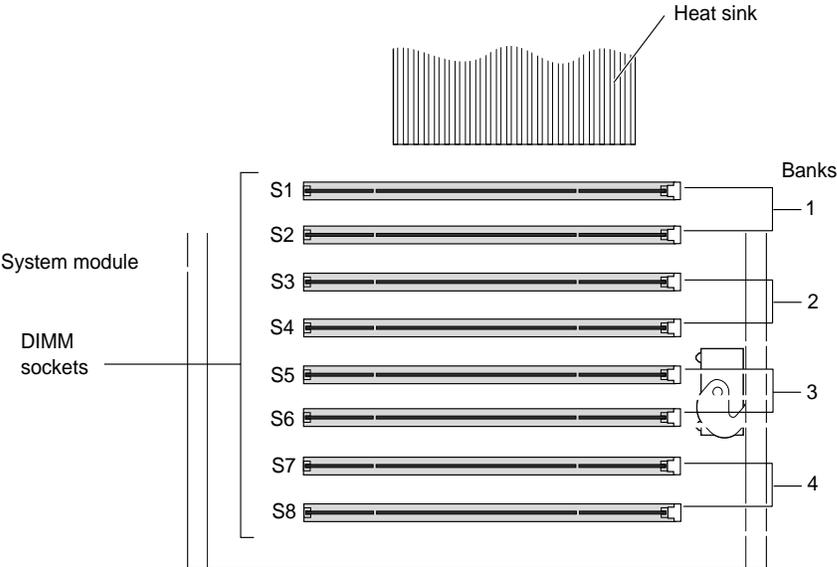
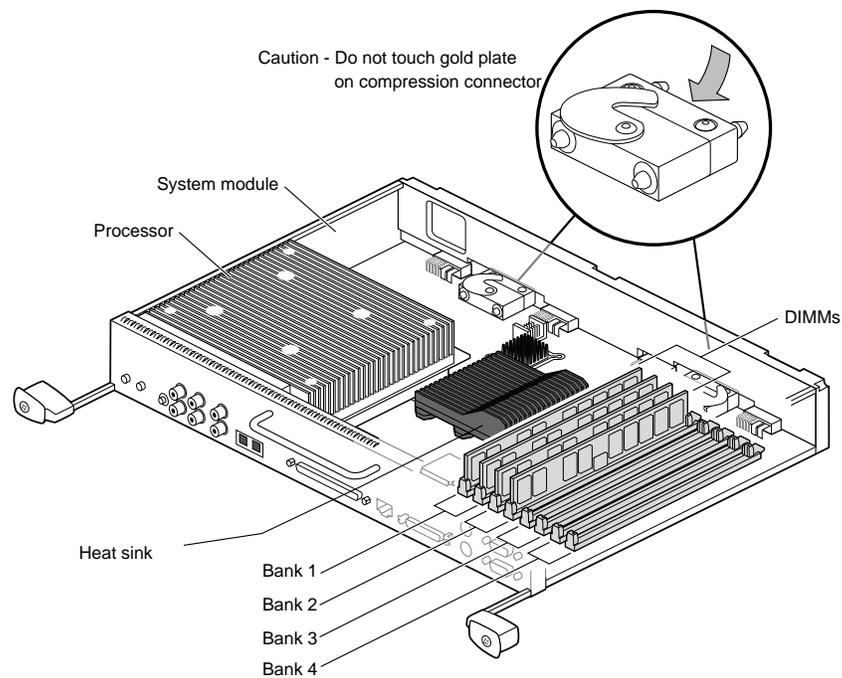
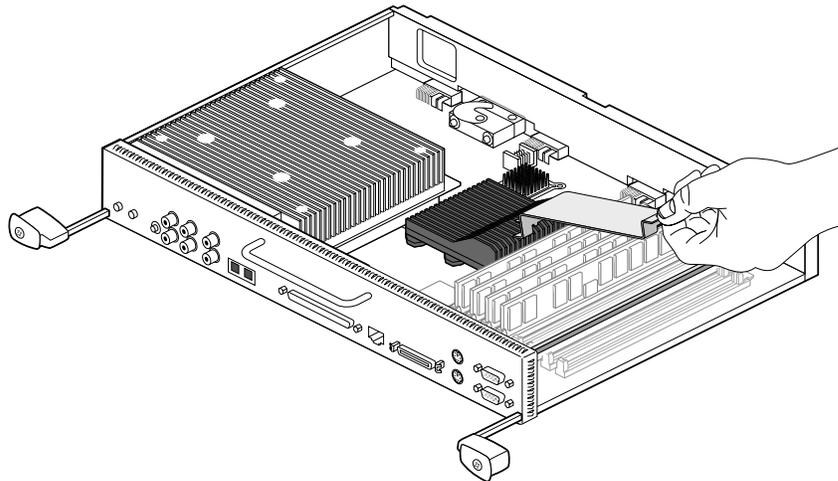

Figure 2-17 Identifying DIMM Sockets and DIMM Banks
Figure 2-18 Locating DIMMs on the System Module (DIMM bracket not installed)
Figure 2-19 Removing the DIMM bracket
Figure 2-17 shows the four Octane2 DIMM banks, with two DIMM sockets in each bank.
With the system module lying on a flat, dry, antistatic surface, locate the DIMM banks and sockets, as shown in Figure 2-17 and Figure 2-18.
If a DIMM bracket is not installed (see Figure 2-18), skip this section. If a DIMM bracket is installed, as shown in Figure 2-19, you must remove it as follows:
1. Remove the DIMM bracket from the rail by pushing it toward the heat sink (see the warning on page 32), and bowing the bracket upward, as shown in Figure 2-19.